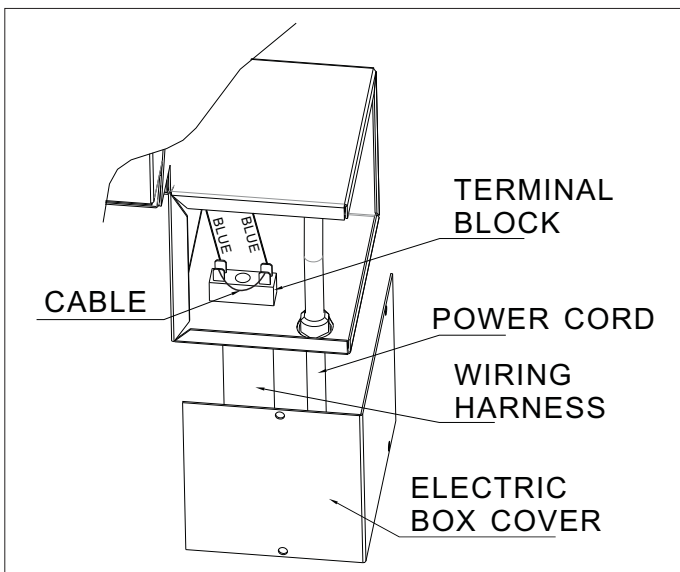

Fig.06 CABLE CONNECTION
1. Remove junction box cover by moving four screws. See Fig.06